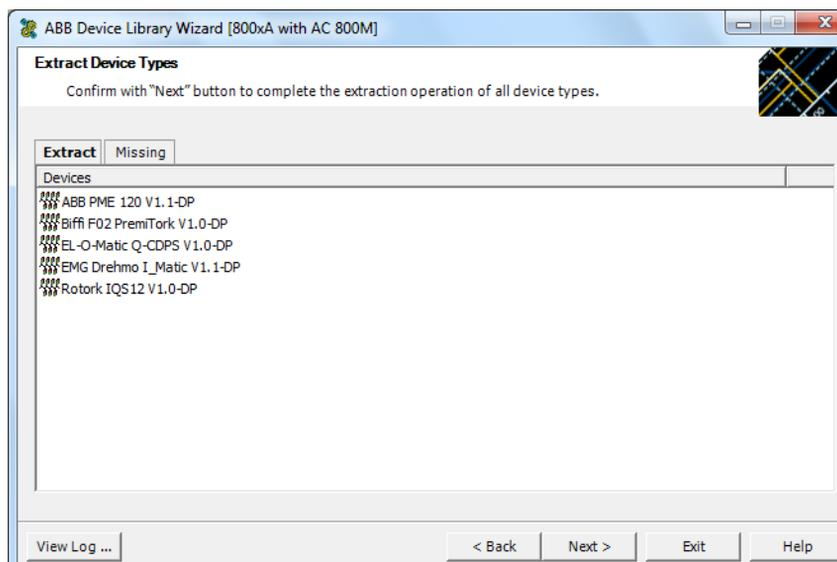

Figure 47. Extract Device Type Files
8. The Device Library Wizard is scanning the 800xA System for already used Fieldbus device types and compares it with the contents of the inserted DVD. Device Types available in the 800xA system and the DVD are shown in the Extract tab of the Device Library Wizard (Figure 47).